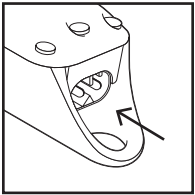

FIGURE 1
- Attach power cord plug into clipper first, then to outlet. If your battery is completely run down, allow the unit to charge for **1 minute** (switched OFF) before using as a corded unit. (Figure 1)
- **For units without a recharge stand,** attach power cord plug into clipper first, then to outlet. Be sure clipper is switched OFF when charging. (Figure 1)